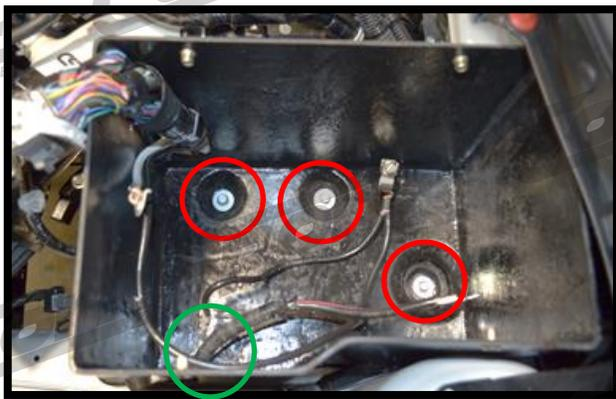

Figure 3a
- a) Start by inserting the black with red power wire (Green Circle in Figure 3a) through the hole in the side of the box.
- b) Push the ECU connectors, the white positive wire and black negative battery terminal wire, removed in step 2c, into the box while moving the box down into position. (Figure 3a)
- d) Line the box up with the three mounting holes, and fasten the box to the car with the three (3) 10mm bolts you removed the factory box. (Figure 3a)
- d) Line the box up with the three mounting holes, and fasten the box to the car with the three (3) 10mm bolts you removed the factory box. (Red Circles in Figure 3a)